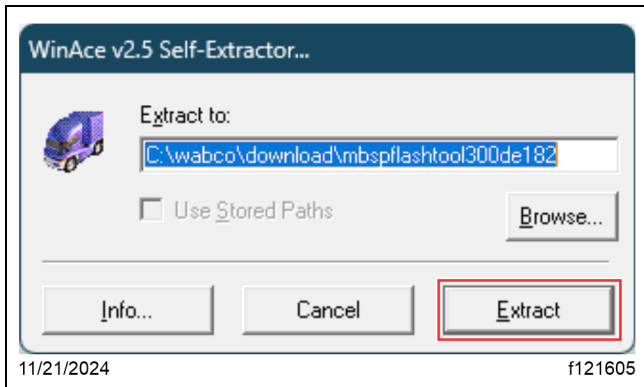
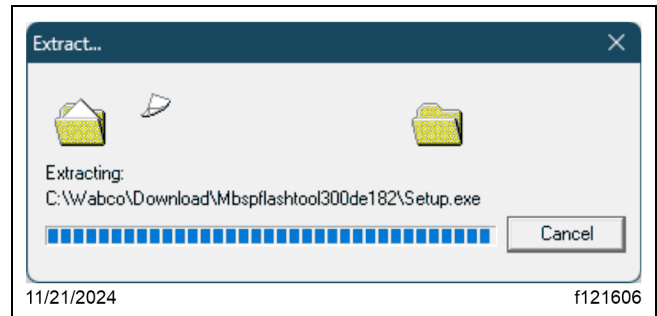

Fig. 30, WinAce v2.5 Self-Extractor Window
Fig. 31, Extracting the Setup File
7.2. The 'WinAce v2.5 Self-Extractor...' window opens. Select 'Extract.' See Fig. 30 and Fig. 31.